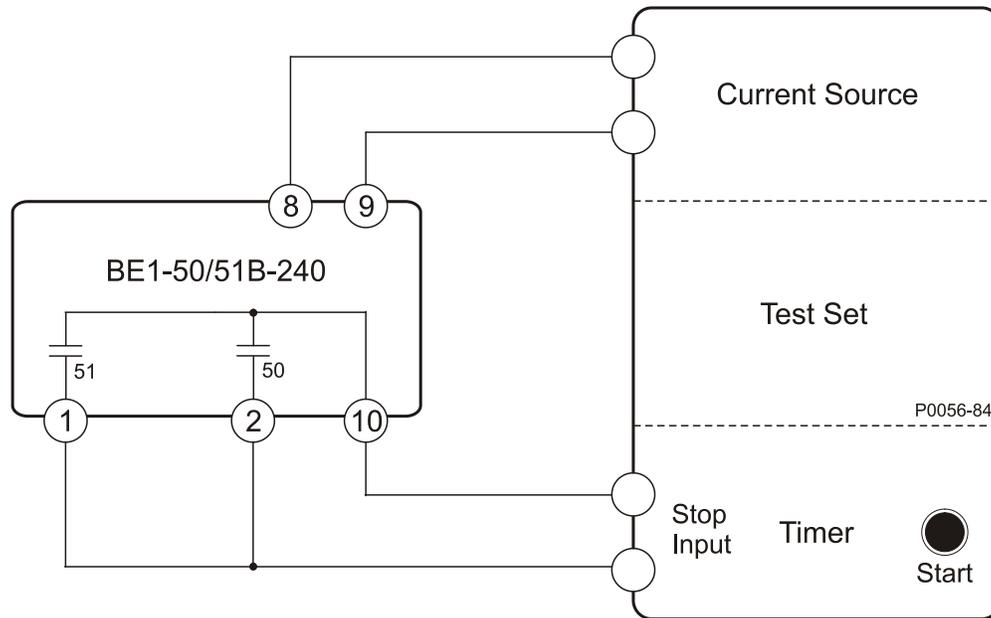

Figure 5-1. 51 Pickup, Time Dial, Integrating Reset, 50 Pickup, and Manual Trip Test Setup
The following test procedures verify operation of the BE1-50/51B-240 relay. The test setups illustrated in Figure 5-1 and Figure 5-2 are intended primarily as an illustration of the principles involved. Other test equipment known to be capable of testing with the stated and implied tolerances (including equipment designed specifically for testing protective relays) may be used.
- a. Connect the test setup shown in Figure 5-1.
- a. Connect the test setup as shown in Figure 5-1.